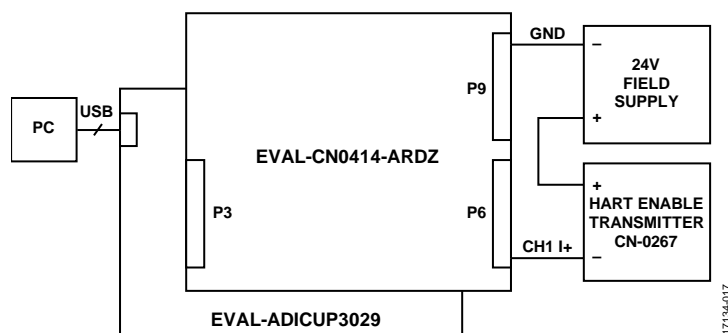

Figure 15. HART Setup Example
- Figure 15 to easily test the HART physical layer functionality. The CN-0267 hardware responds to the HART commands available in the CN-0414 software.